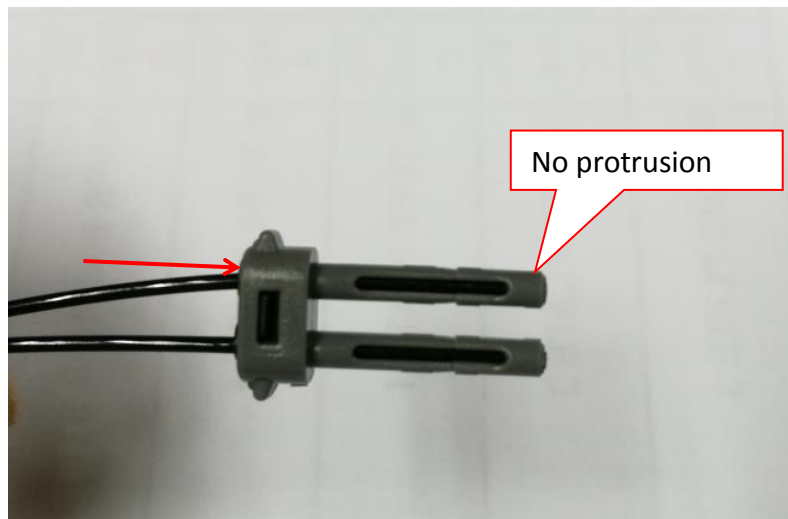

Figure 16 PIP Sensor End Cable Adapter
8. Gently slot PIP Sensor End Cable into adapter as shown in Figure 16.